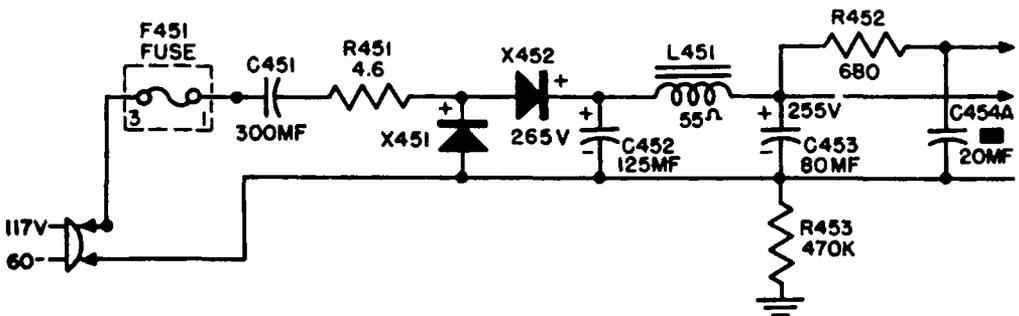

Fig. 2-12. Typical transformerless power supply.
*transformerless* power supply have been manufactured. An example of this type is shown in Fig. 2-12. Most of these supplies now use selenium rectifiers for rectification, although a few employ tubes. The circuit is a voltage-doubler arrangement, providing from 200 to 250 v. Note that, although this circuit greatly resembles the a-c/d-c type used in many radio receivers, *it is not suitable for d-c operation* since the voltage doubler cannot operate on direct current. It is not correct, therefore, to refer to these supplies as "a-c/d-c."